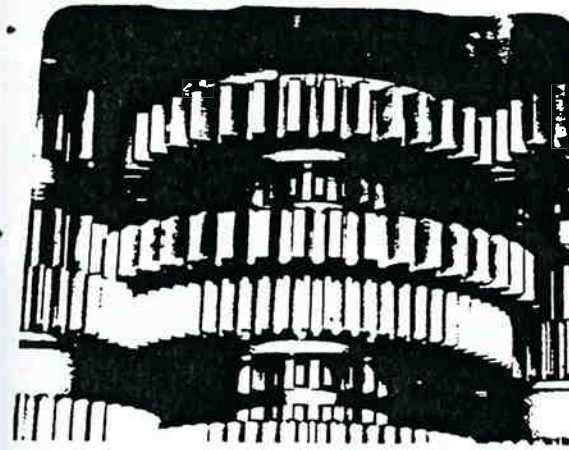

Figure 13-150. Reverse Gear Moved to Rear.
2. Move the reverse gear to the rear on mainshaft as far as possible, meshing teeth of gear with teeth of the two reverse idler gears (figure 13-150).